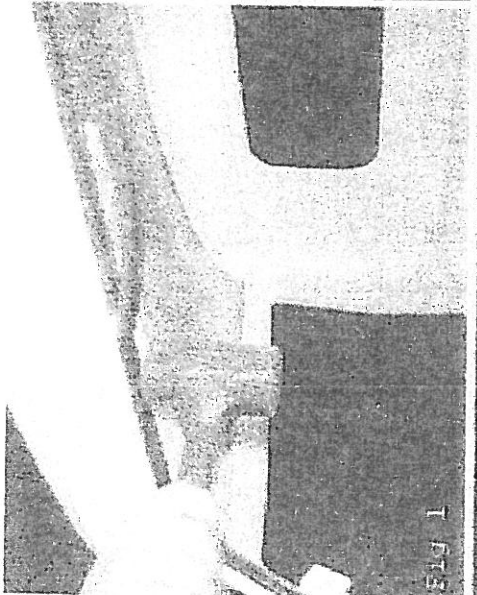
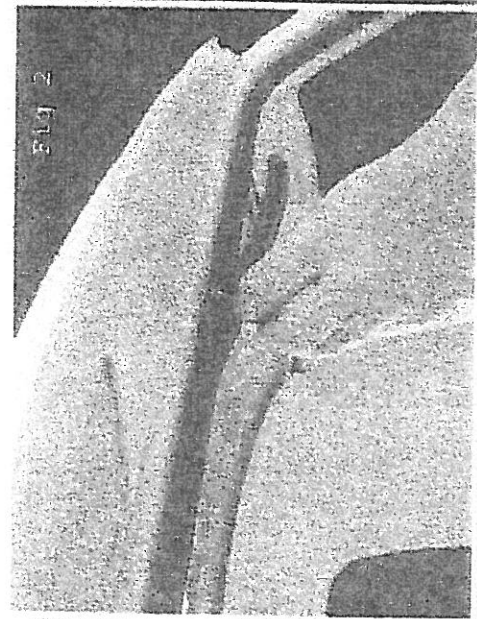
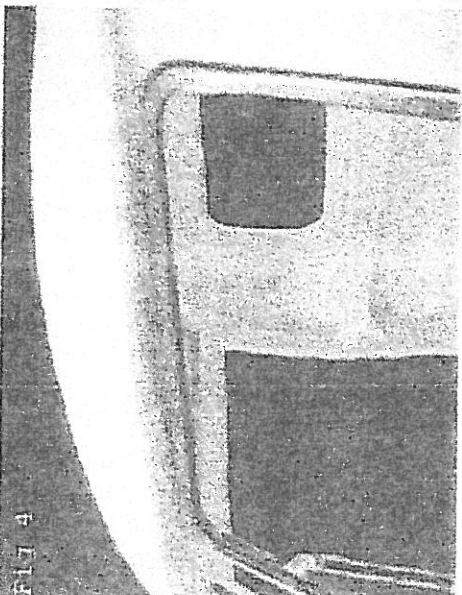

FIG 1
FIG 2
FIG 4
1. After your touch-up work is finished, install your new Safari seals with the bubble facing out and the seam at the top. Do not glue them in, they will need to be taken out again. Use a small rubber or wooden mallet to tamp the seal all the way down on the lip (Fig. 1). Make sure the seals seat completely all the way around the window opening, especially in the corners. If not, the seal will be short after cutting off the excess. When you are sure the seal is completely seated around the window opening, it is time to cut the excess off. Pay attention to cutting the seal straight using a razor blade or tin snips. NOTE: We cut the seal an 1/8" longer than needed. This will allow you to trim the seam later for a perfect fit (Fig. 2). Save the excess seal material, it will assist in later steps. Now with your favorite helper, lift the Safari frame in its closed position, tuck the hinge in behind the seal and flush to the mounting surface. Two people are a must here (Fig. 4).